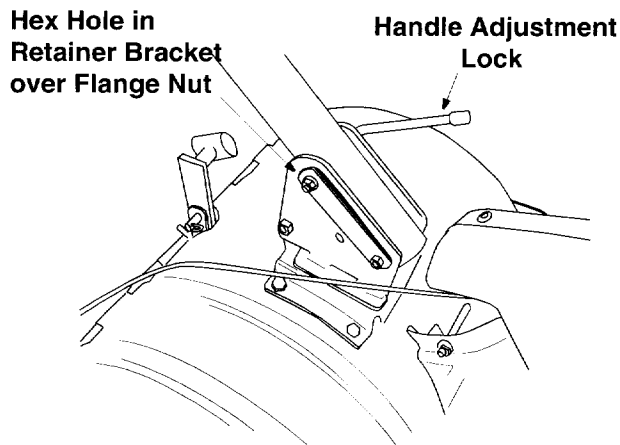

Figure 6
- Place the hex opening of the hex nut retainer bracket over the flange nut securing the handle adjustment lock and install the lock nut on the lower shoulder bolt. See Figure 6.